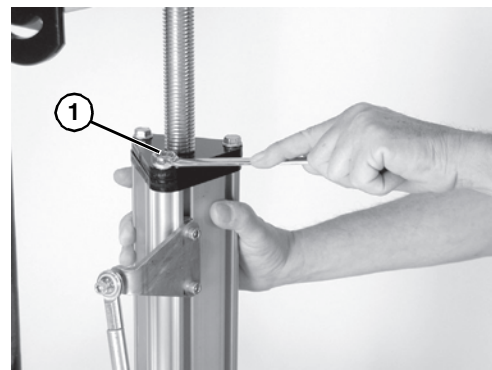

Figure 20
5. Loosen the three tri-lobe hex head screws (Figure 20, item 1).
<p>Failure to secure screws (Figure 20, item 1) may cause conveyor sections to drop down, causing severe injury.</p> <p>TIGHTEN ALL SCREWS (Figure 20, item 1) AFTER ADJUSTMENT.</p>
- Re-tighten tri-lobe hex head screws (Figure 20, item 1) to 100 in-lb (11 N-m).